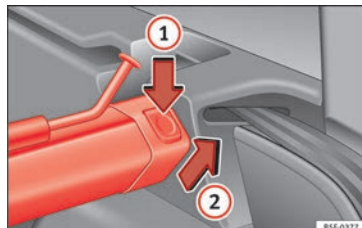

Fig. 172 In the luggage compartment: removing the net partition.
- Press the left or right release catch »» Fig. 172 in the direction of the arrow ①.
- Remove the casing from the support in the direction of the arrow »» Fig. 172 ②.
- Press the casing into the left and right supports in the opposite direction to the arrow »» Fig. 172 ② until it engages.